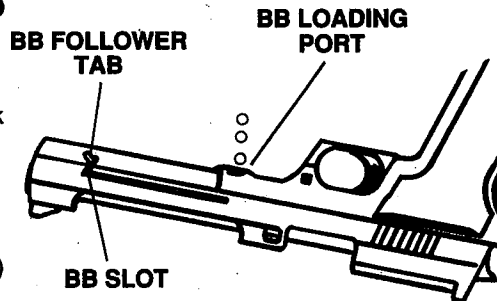

FIG. 4
- Push the BB follower tab forward and hook it in the slot. (Fig. 4)
- Point the pistol in a safe direction and turn it over. (Fig. 4)
- Load up to 17 BBs into the BB Loading Port. Pointing the barrel up slightly allows the BBs to roll into the loading port. (Fig. 4)